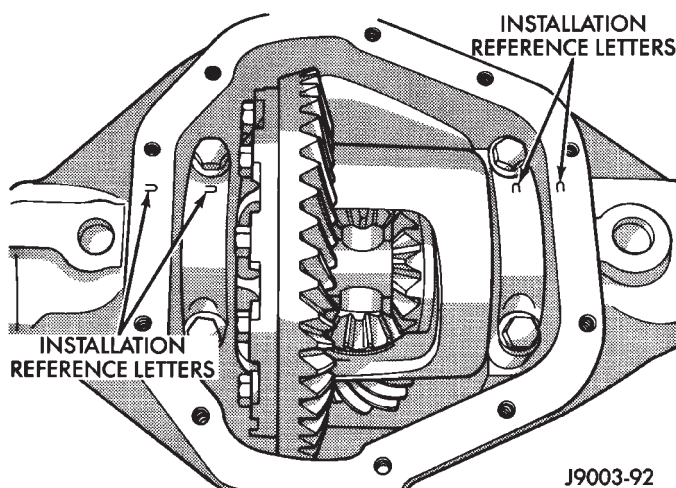

Fig. 36 Differential Bearing Cap Reference Letters
(4) Remove the dial indicator.
(5) Install differential case in the housing. Ensure that the differential bearing cups remain in position on the differential bearings. Tap the differential case to ensure the bearings cups are fully seated in the housing.
(6) Install the bearing caps at their original locations (Fig. 36).
(7) Loosely install differential bearing cap bolts.
(8) Remove axle housing spreader.
(9) Tighten the bearing cap bolts to 61 N·m (45 ft. lbs.) torque.
(10) Install the hub bearings and axle shafts.